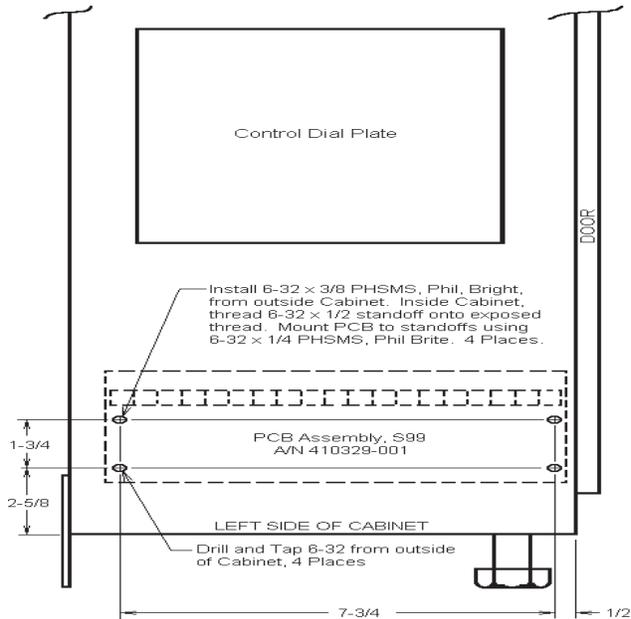

Figure E6. External TSS Mounting detail for “L”, “H”, “G” or “U” Cabinet
6. Add extra spacer (P/N 555031) to each existing spacer (4 places) to offset PCB 1" from panel. Mount External Terminal Strip Skip PCB (A/N 410329-003) to existing bracket (P/N 510236) using four (4) screws retained from S99 PCB. See Figure E6.